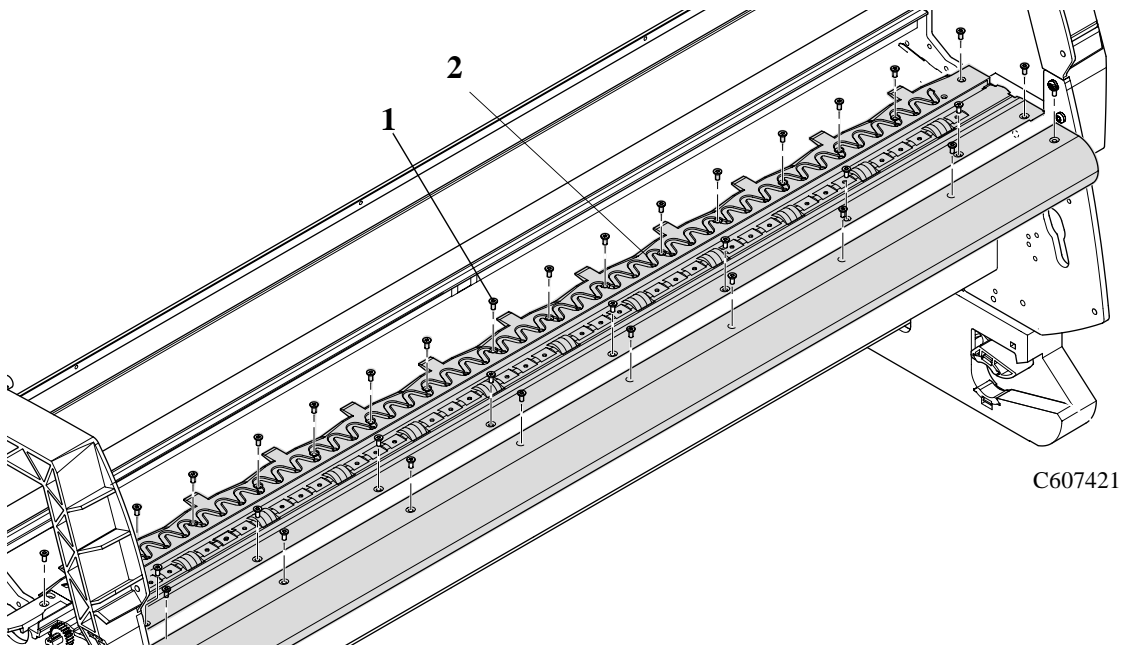

Figure 68: Platen Assembly
2. Remove twenty-nine screws T-10 screws (item 1) from the platen assembly (item 2) and remove the platen assembly (see Figure 68).